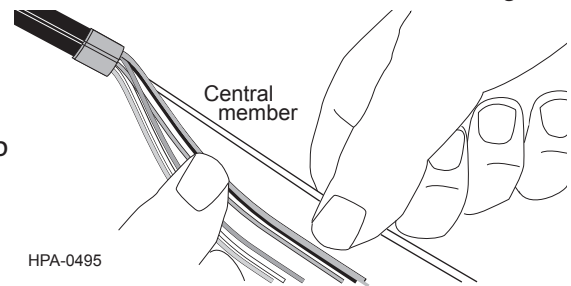

Figure 7
**Step 1:** Carefully unwind the buffer tubes from around the central member of the cable (Figure 7). Be careful not to bend or kink any of the buffer tubes.